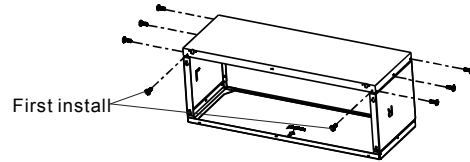

Fig. 3
- Install the BOTTOM COVER with the LEFT COVER and RIGHT COVER together by using 8 short screws as shown below. (See Fig.3)